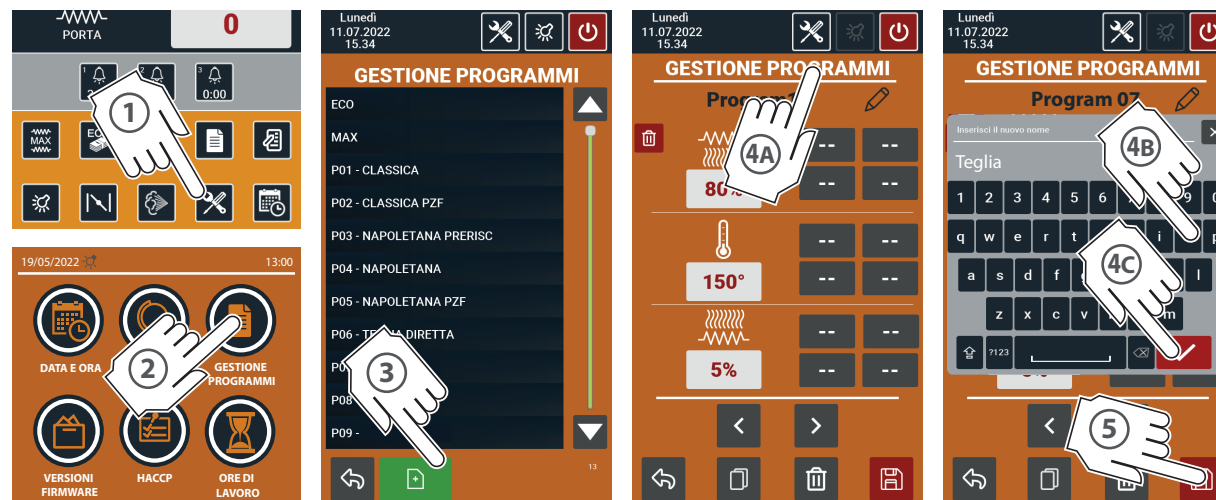

Fig.21
► Fig.21
- ① Touch the **SERVICE** icon (with the oven in stand-by).
- ② Touch the **PROGRAM MANAGEMENT** icon.
- ③ Touch the **NAME** of the recipe you wish to modify (in the example "Classic").
- ④ Change the values as usual. Confirm with  or cancel with  the entries made.
- ⑤ Save the recipe with the **DISC**  symbol.